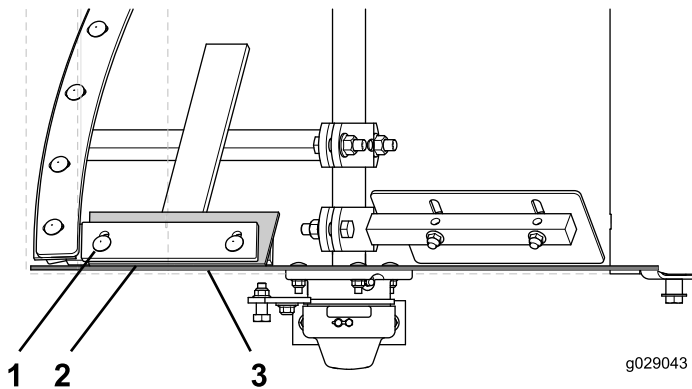

Figure 66
4. Loosen the carriage bolts and flanged locknuts that secure the paddle blade and wiper to the fixed paddle. (Figure 66)